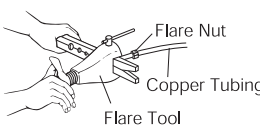

Figure 10
4. Make a flare at the end of the copper tube with a flare tool (Figure 10).